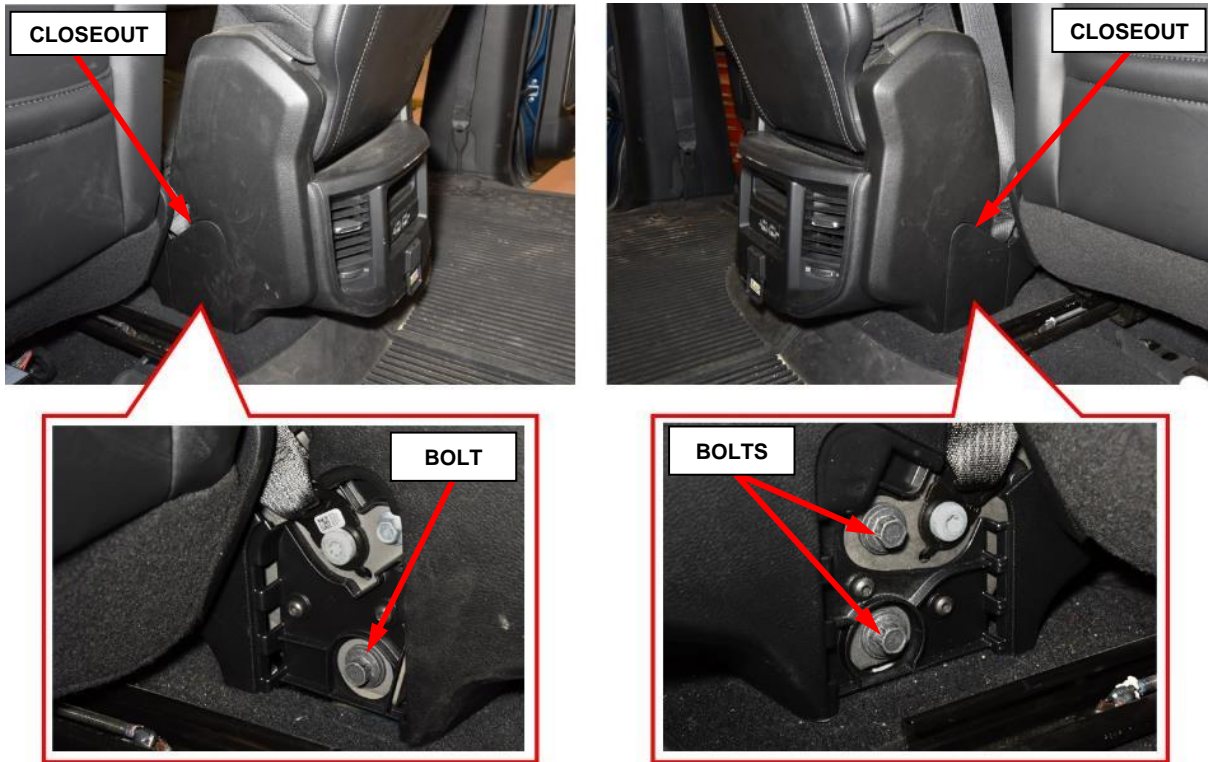

Figure 11 – Center Seat Rear Closeouts and Fasteners
10. Remove the bolt closeouts at the rear of the front center seat, then remove the bolts on both sides of the seat (Figure 11).
23. Loosely install all center seat bolts, then tighten the rear bolts to 70 N·m (52 Ft. lbs.) (Figure 11).
24. Install the rear bolt closeouts (Figure 11).